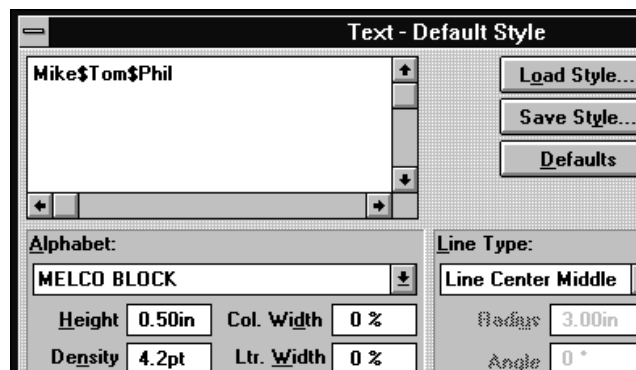

Figure 9-2
4. Type in the names with **\$** between each name (see Figure 9-2).